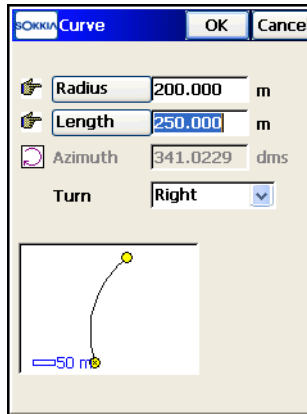

Figure 7-10. Add Curve
2. On the *Curve* screen (Figure 7-10 on page 7-9), enter the following parameters:
- For the direction of turn (Figure 7-10), select either the *Right* value (clockwise direction or the *Left* value (counter-clockwise direction).)